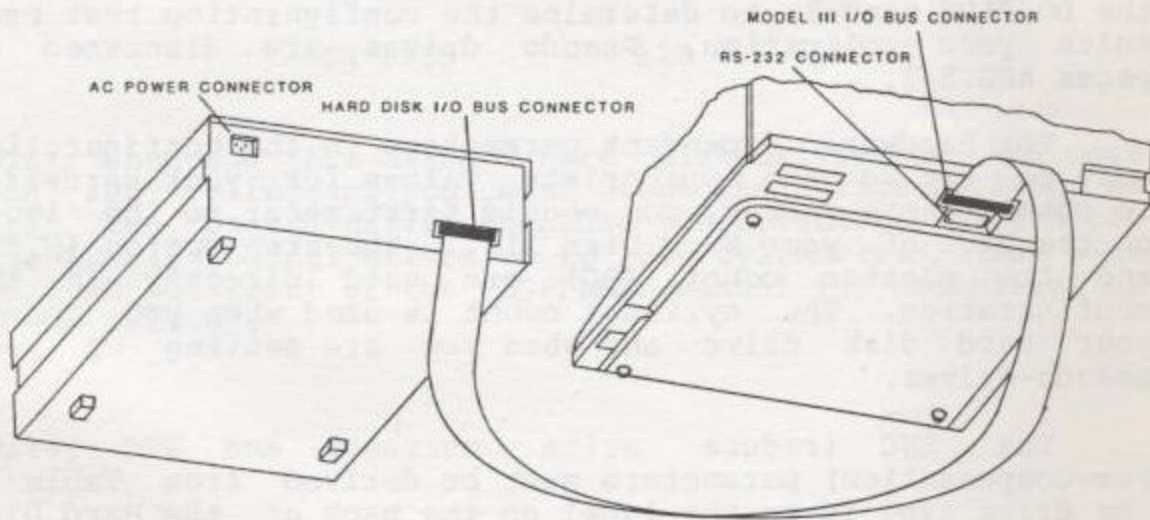

FIGURE 3.
- c. The other end of the 50 pin edge connector is connected to the 50 pin paddle on the bottom, so that the cable exits the rear of the Model III. (see Figure 3.)